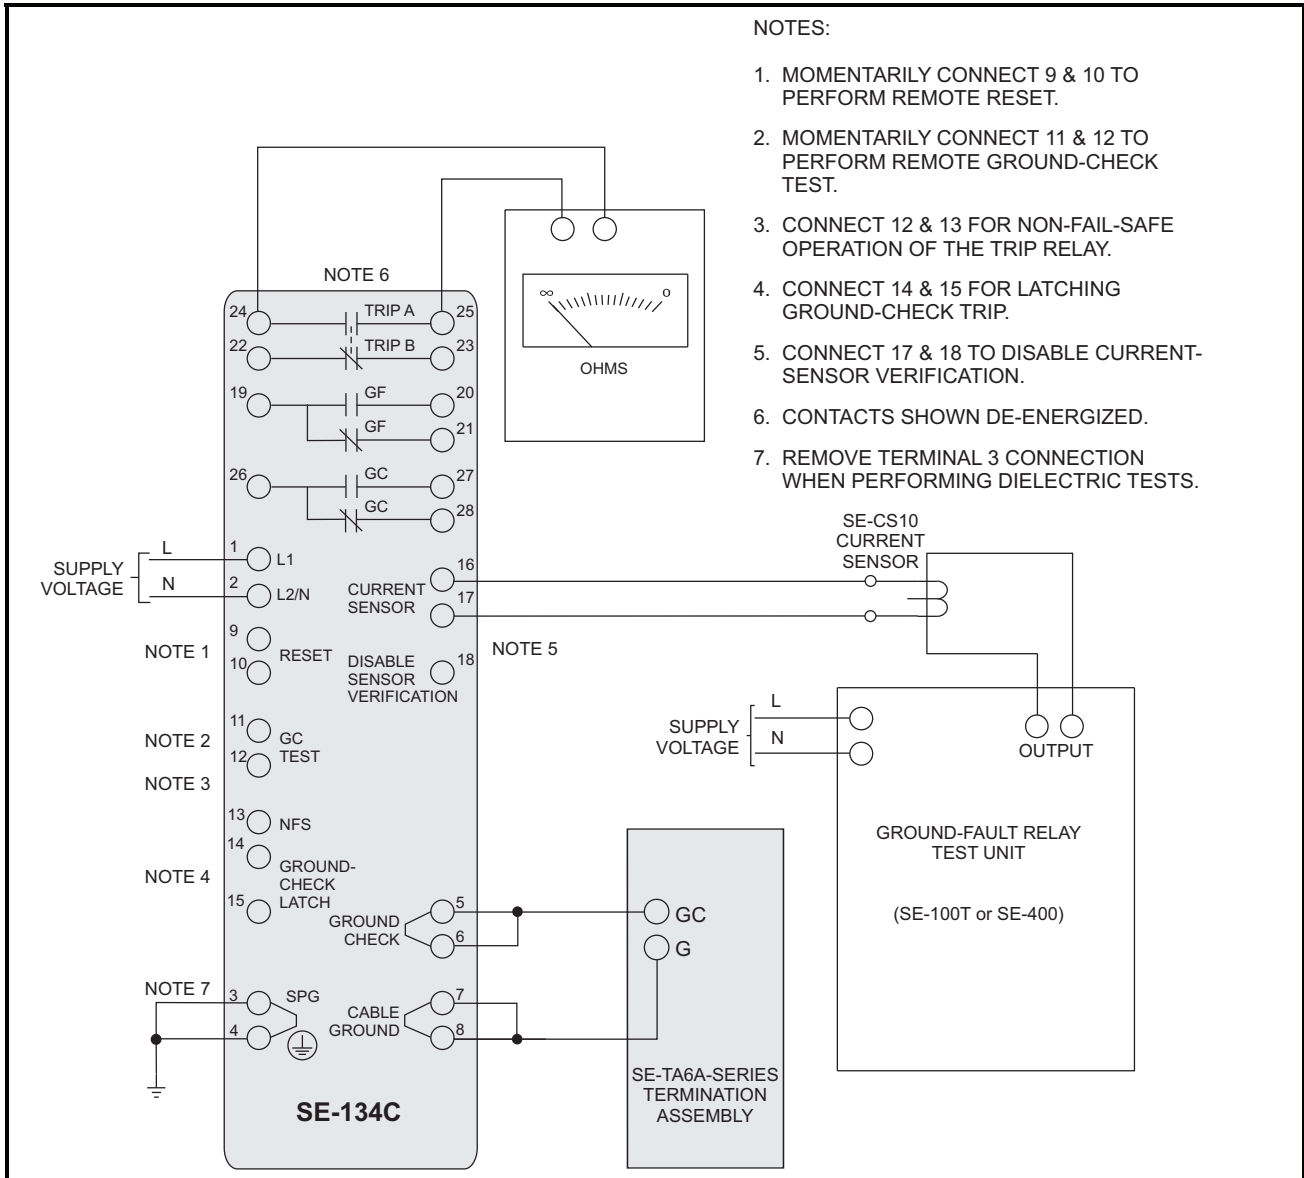

FIGURE 10. Ground-Fault-Test Circuit.
- Connect the monitor, current sensor and termination assembly as shown in Fig 10. Connect terminals 14 and 15 for latching operation. With supply voltage applied, the POWER, SENSOR, and VALID LED's will be on.
- Connect the monitor, current sensor and termination device as shown in Fig. 10. With supply voltage applied, the POWER, SENSOR, and VALID LED's will be on.
- Connect the monitor, current sensor and termination device as shown in Fig. 10. With supply voltage applied, the POWER, SENSOR, and VALID LED's will be on. The output contacts between terminals 22 and 23 will be open and between 24 and 25 will be closed.
- Verify proper reaction of the circuit-interrupting device in response to a simulated or controlled ground-fault current. To simulate ground-fault current, use CT-primary current injection. Fig. 10 shows a test circuit using Littelfuse Startco Ground-Fault-Relay Test Units. The SE-400 has a programmable output of 0.5 to 9.9 A for a duration of 0.1 to 9.9 seconds. Set the test current to 120% of GF TRIP LEVEL. The SE-100T provides a test current of 0.65 or 2.75 A for testing 0.5- and 2.0-A trip levels. Inject the test current through the current-transformer window for at least 2.5 seconds. Verify that the circuit under test has reacted properly. Correct any problems and re-test until the proper reaction is verified.